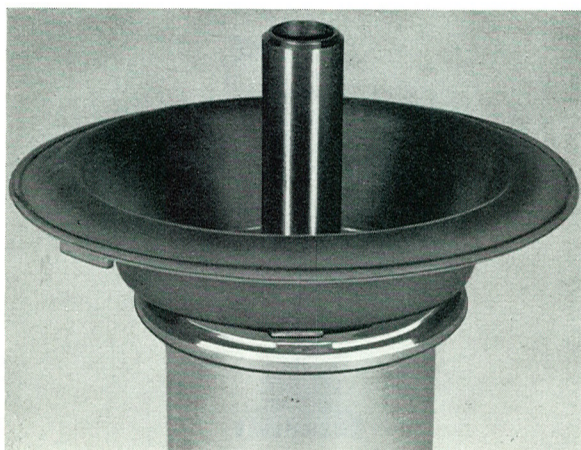

Fig. 2-102. Diaphragm in air valve
3. Fit the new diaphragm, see Fig. 2-102. The rubber register should fit into the valve groove.